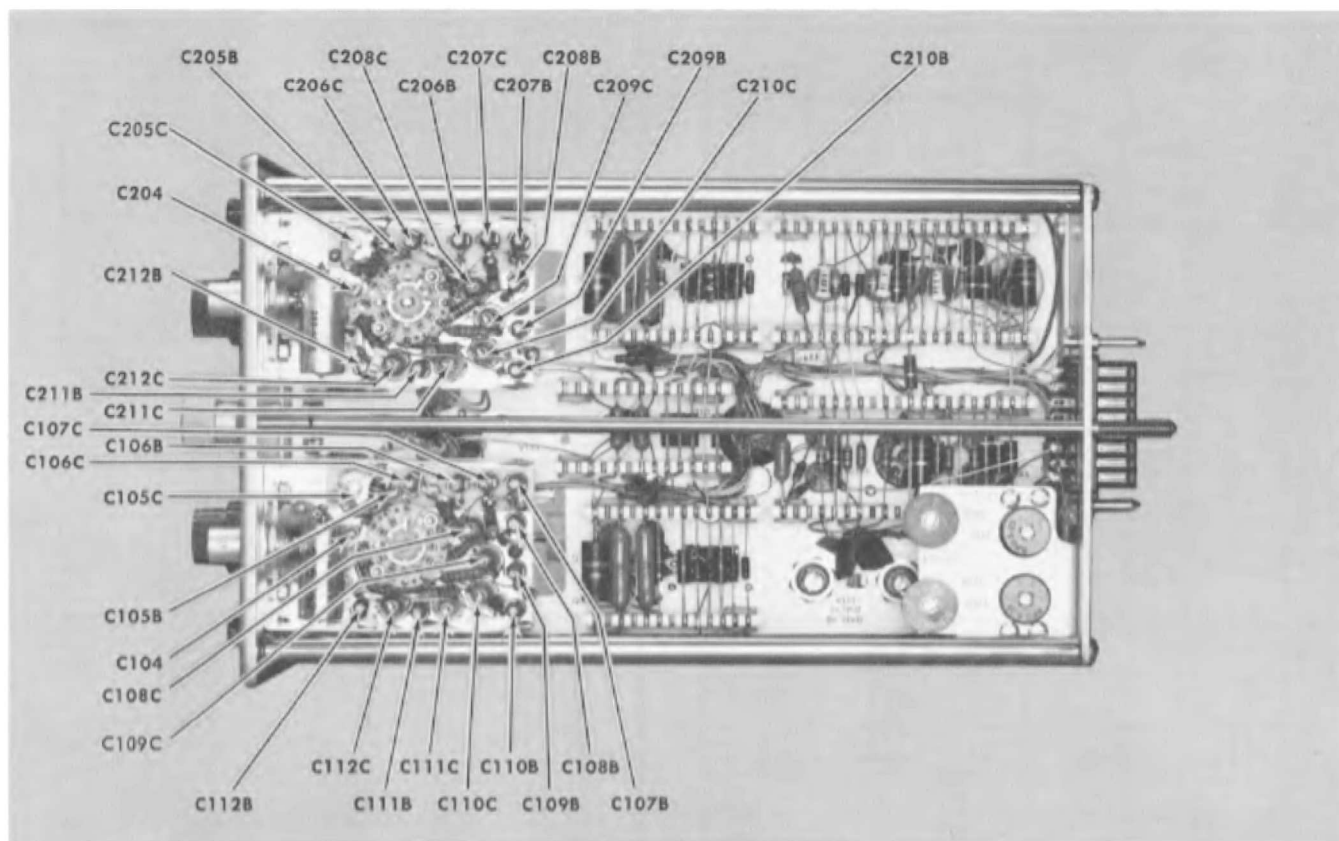

Fig. 7-12. Location of input and attenuator compensation adjustments.
g. Adjust—Input Shunt Capacitor for optimum flat top at each VOLTS/CM switch setting using Table 7-2. See Fig. 7-12 for the location of adjustments.
j. Adjust—Frequency Compensating Capacitor for optimum square corner and flat top at each VOLTS/CM switch setting using Table 7-2. See Fig. 7-11A for waveform and Fig. 7-12 for location of adjustments. (It will not be possible to maintain the 4 cm amplitude at the 5, 10 and 20 VOLTS/CM switch positions.)